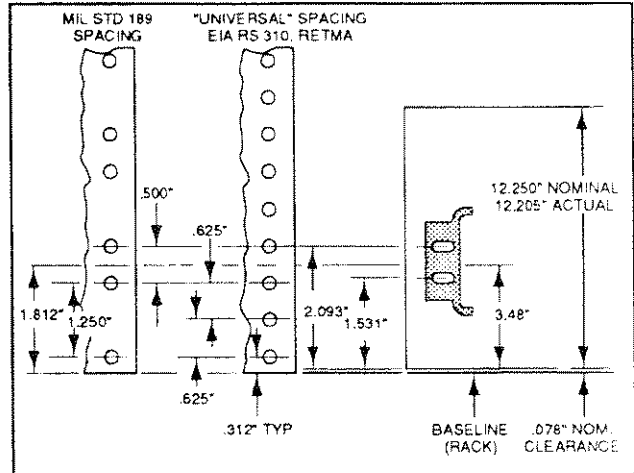

Figure 1-2. Rackmount hole spacing.
Rackmounting. The 370A fits most commercial consoles and 19-inch racks with rail holes that conform to universal spacing. See Figure 1-2 for hole spacing details.
1. Select the appropriate holes in the rack rail, using Figure 1-2 as a guide.